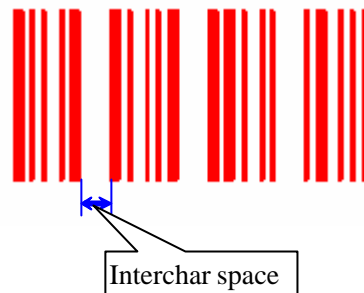

Figure 4-24 Characters' Distance
5. **Interchar space:** It is prescribed that some barcodes have distance between characters. (e.g. Code 39) This parameter is used to set this like Figure 4-24 shows.